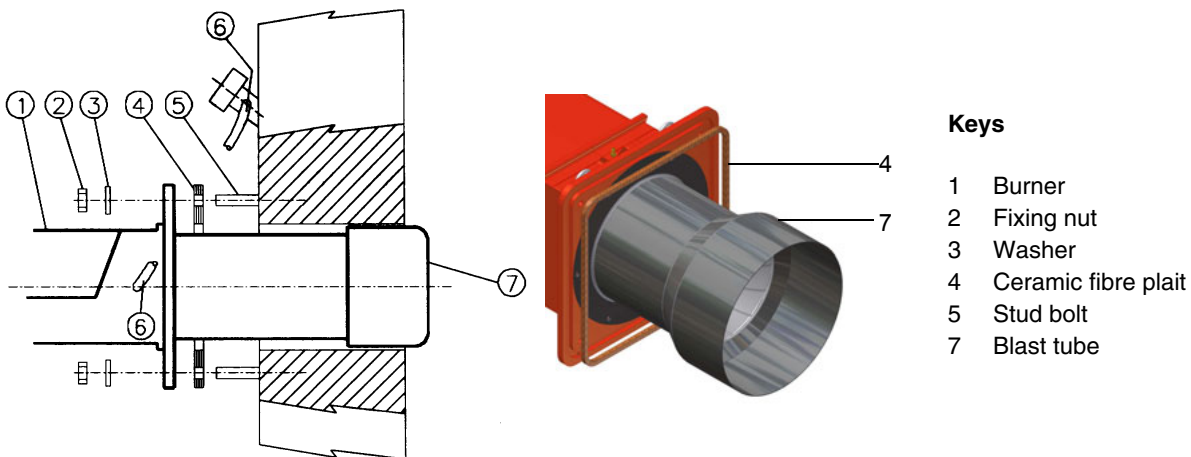

Fig. 3
- 2 screw the studbolts (5) on the boiler door, according to the drilling plate (see paragraph "Overall dimensions");
- 8 fix the burner to the stud bolts, by means of the fixing nuts, according to Fig. 3.